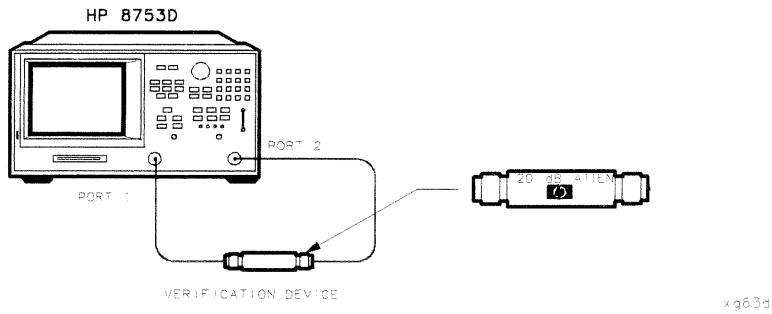

Figure 2-10. Connections for the 20 dB Verification Device
31. Connect the 20 dB attenuator (supplied in the verification kit) as shown in Figure 2-10.